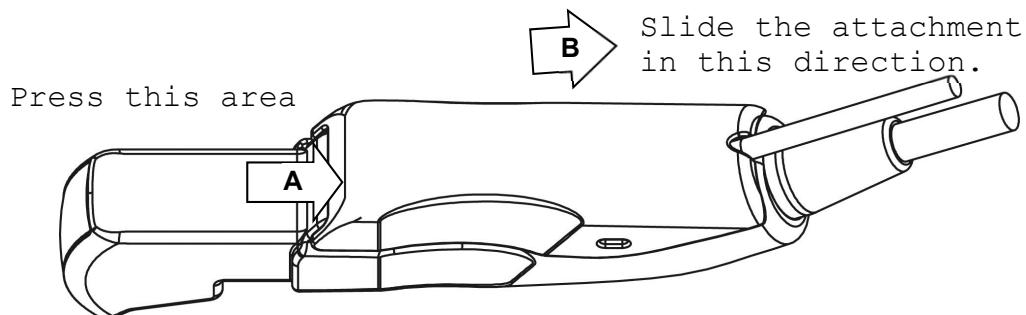

Fig. 8 How to release the attachment from the probe
- 1) Press the area of the attachment shown with the arrow toward the direction A, and then slide out the attachment toward the direction B as shown in Fig. 8.